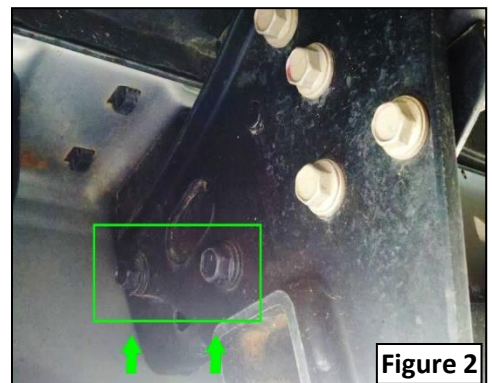

Figure 2
- Use a 17mm socket to remove the 4 bolts on either side of the bumper frame mount. There will be 2 bolts on each side that will need to be removed. They are located closest to the bumper. See **Figure 2**. (On vehicles without a tow package, loosening the remaining bolts connecting the frame plates to the frame may make removal / installation of the bumper easier).